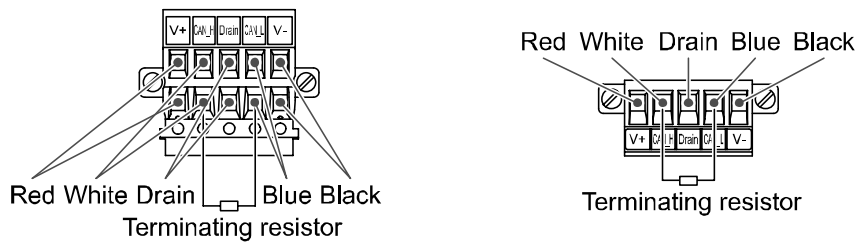

Figure 2
(2) A bus termination is required at both ends of DeviceNet™ bus segment as shown in the Figure 2.